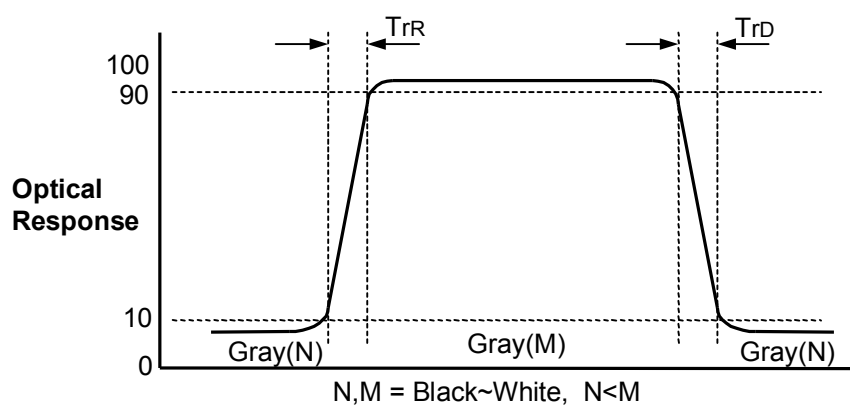

FIG. 3 Response Time
4. Response time is the time required for the display to transition from G(N) to G(M) (Rise Time, TrR) and from G(M) to G(N) (Decay Time, TrD). For additional information see the FIG. 3. (N<M)